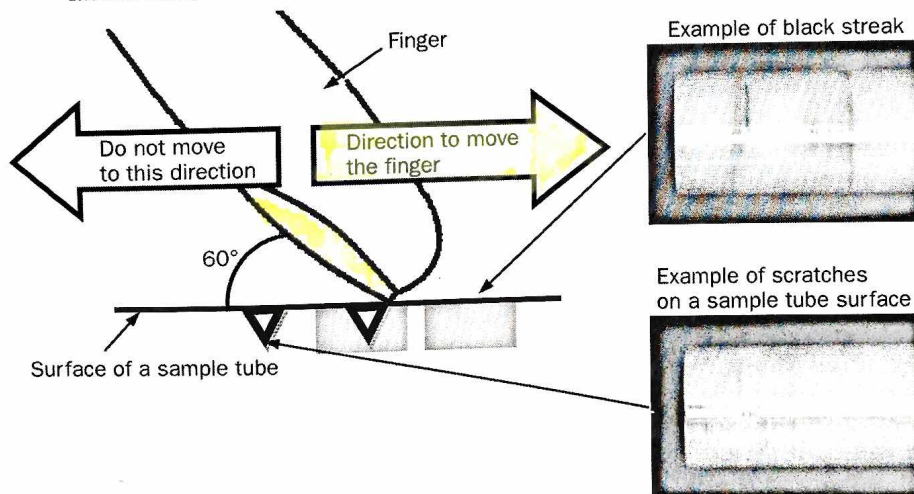

Fig. 3 Direction to trace with nail
2. Trace the whole circumference parallel to the sleeve axis (Fig. 3).